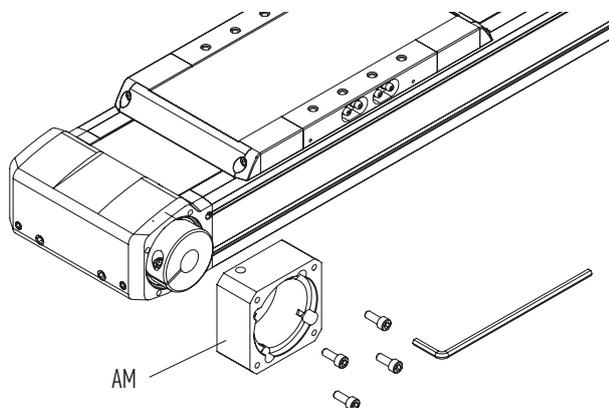

Fig. 6.73 Mounting the motor adapter plate AM (HT-B)
- ▶ Attach the motor adapter plate AM so that it lies flat. In doing so, note the position of the hole for the clamping hub's clamping bolt (see Fig. 6.73).